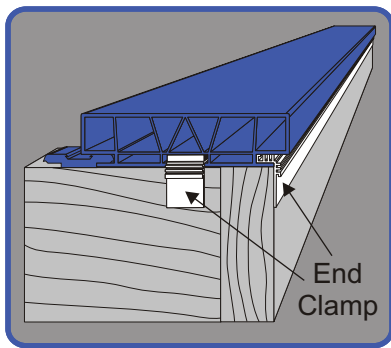

Figure 6
**Step 5.** Insert end clamp strips lengthwise into the slot along the exposed side of outer deck boards. A lower interior wall may need to be removed with a circular saw if the outer deck board has been ripped to size. Cut additional clamp strips into 1" pieces. Insert a 1" end clamp piece into the lower center chamber of every third deck board end (see Figure 6).